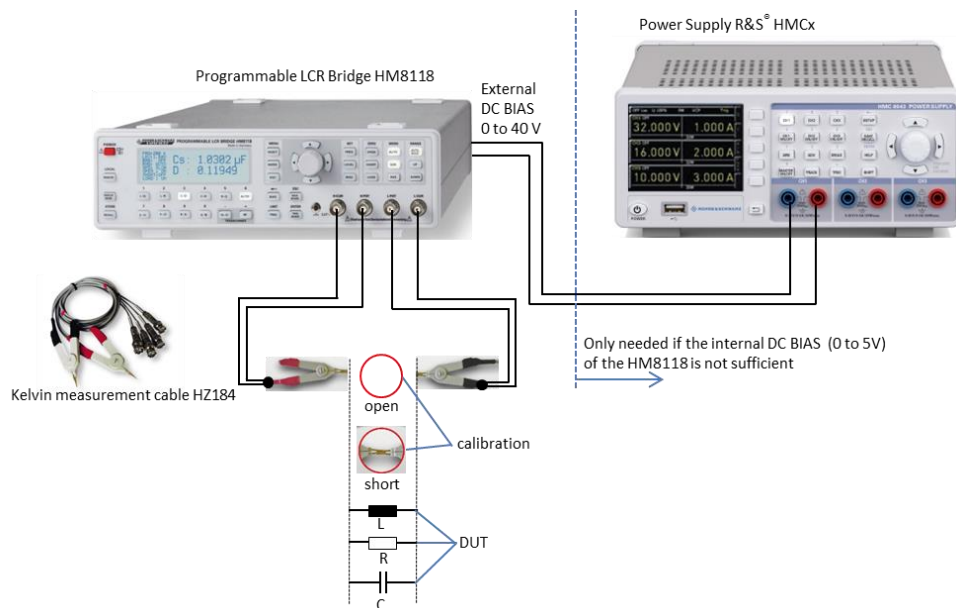

Fig. 2-1: Component measurement using the HM8118 LCR bridge.
- Connect the capacitor between the red (+) and black (–) terminals of HZ184 (Fig. 2-1). **Important: You must check the polarity on unipolar capacitors!**
- Note: Electrolytic and tantalum capacitors require a bias voltage for a correct measurement. This should be high enough that no polarity reversal occurs when an AC voltage is applied, or else it should ideally be equivalent to the DC value in the actual circuit. Press the *BIAS* key and then use the rotary knob to set the required bias voltage (pressing the *BIAS* key a second time will switch the bias voltage off again). The set DC voltage is then superimposed on the measured AC voltage. The internal bias voltage can be a maximum of 5 V and is set in 10 mV increments. If this supply voltage is not sufficient, an external power source is used to supply a DC bias voltage of up to 40 V (Fig. 2-1). The constant voltage (CST V) must be switched on for this purpose. Press the *SELECT* key and use the rotary knob to select *SETUP* in the menu. Press the rotary knob to enable *CST V* and then use the rotary knob to set *ON*. Press the *ESC* key.
- Connect the coil between the red (+) and black (–) terminals of HZ184 (Fig. 2-1).
- Connect the resistor between the red (+) and black (–) terminals of HZ184 (Fig. 2-1).